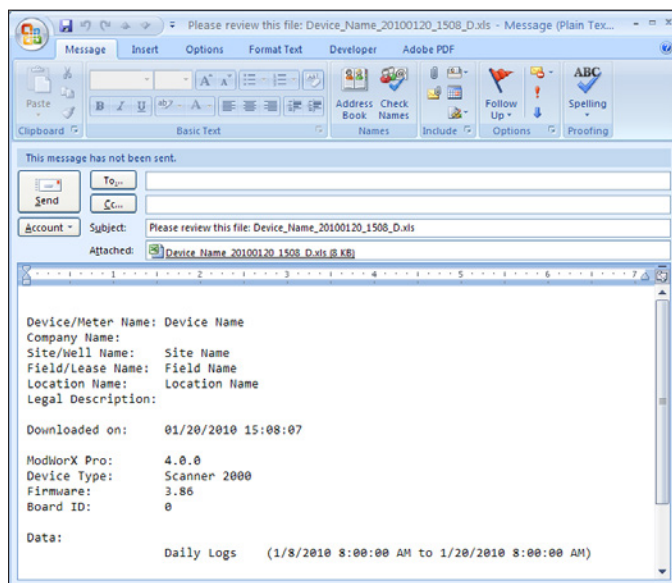

Figure 14.29
- Click **Save** to export the data to the file. The file will automatically be attached to an email window (Figure 14.29).